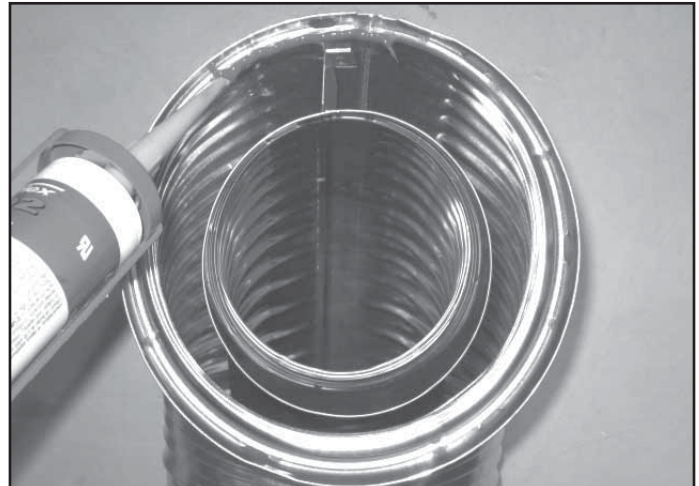

Figure 10.1 High Temperature Silicone Sealant
- Apply a bead of silicone sealant (300° F minimum continuous exposure rating) inside the female outer pipe joint prior to joining sections. See Figure 10.1
- Apply a bead of silicone sealant inside the female outer pipe joint prior to joining sections. See Figure 10.1